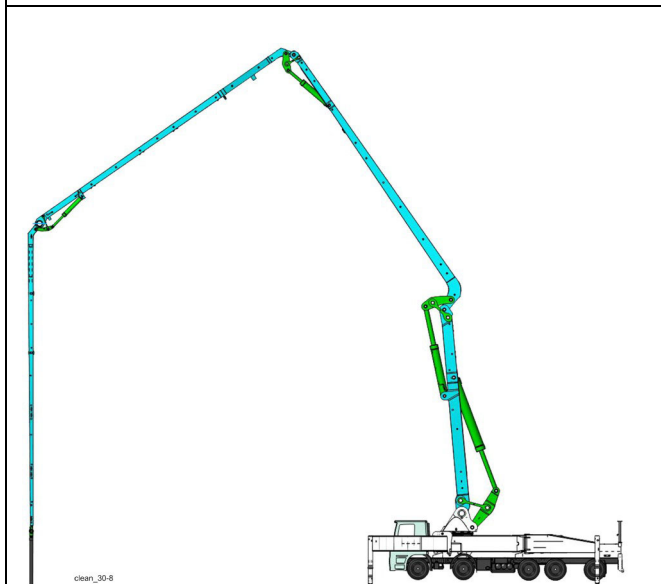

Fig. 242 Placing boom cleaning position
5. Position the placing boom as shown in **(Fig. 242)**.